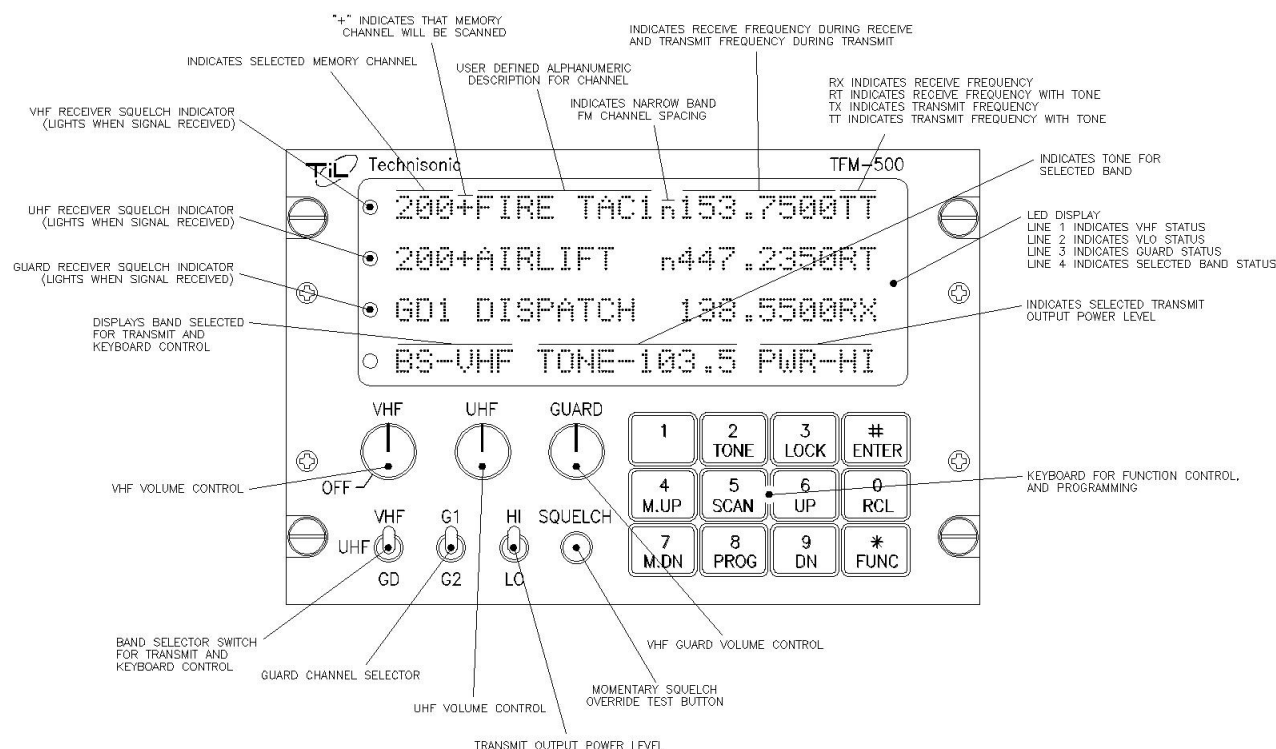

FIG. 2.1 Operator's Switches and Controls
2.2 OPERATING INSTRUCTIONS (See Figure 2.1)